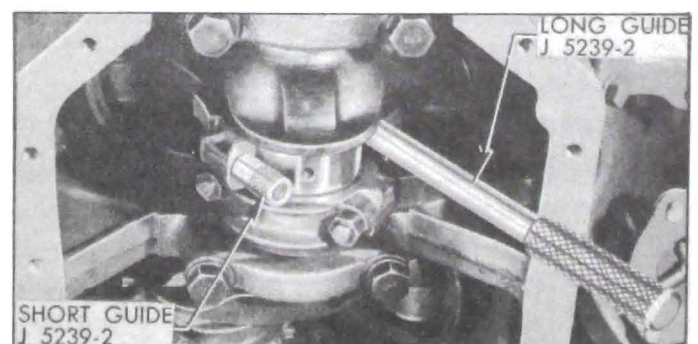

Figure 2-32—Connecting Rod Bolt Guides Installed
necting rod bolt, and install the *long* Guide J 5239-2 on the opposite bolt, above crankpin. Turn guides down to hold the bearing upper shell in place. See figure 2-32.
12. Insert piston and rod assembly into its cylinder bore with the long guide pin placed above the crankpin. Push the assembly down until the rod bearing seats on crankpin. See figure 2-32.